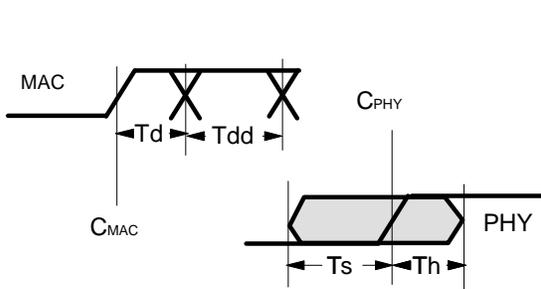

Figure. 4 MAC, PHY, case A
- A. PHY gets data from the current clock on MAC (Figure. 4)